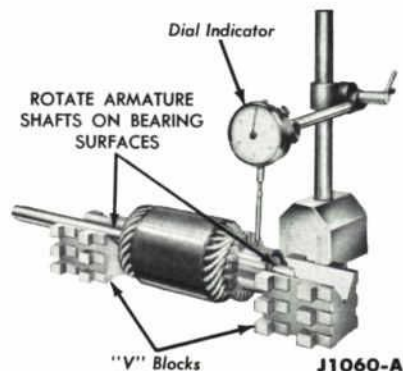

FIG. 51—Commutator Runout Check
4. Check the commutator for run-out (Fig. 51), and inspect the armature shaft and the two bearings for scoring and excessive wear.
Check the commutator runout as shown in Fig. 51. If the surface of the commutator is rough or more than 0.002 inch out-of-round, turn it down.